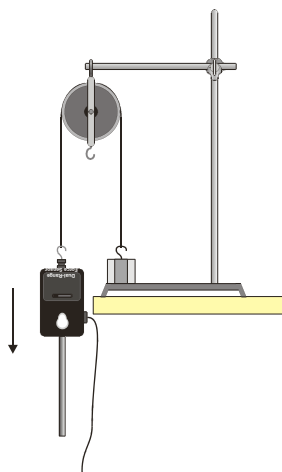

Figure 1
A *pulley* is a simple machine having a rope that passes over a grooved wheel. A fixed pulley (see Figure 1) is attached to a solid support and changes the direction of force. The resistance force is the weight of the object being lifted. This force is applied to one end of the rope that goes over a fixed pulley. The effort force is exerted on the other end of the rope, in opposition to the resistance force.
- c. Select **CH1-FORCE (N)** from the **SELECT CHANNEL** menu.
- d. Select CH1-FORCE (N) from the SELECT CHANNEL menu.
7. Set up Pulley System 1. Attach a single pulley to a ring on a ring stand as shown in Figure 1.
14. Look at Figures 1–3 and count the supporting ropes for each pulley system. All ropes are considered to be supporting except a rope that you pull downward (with the Force Sensor). A rope that you pull upward counts as a supporting rope. Record these numbers.